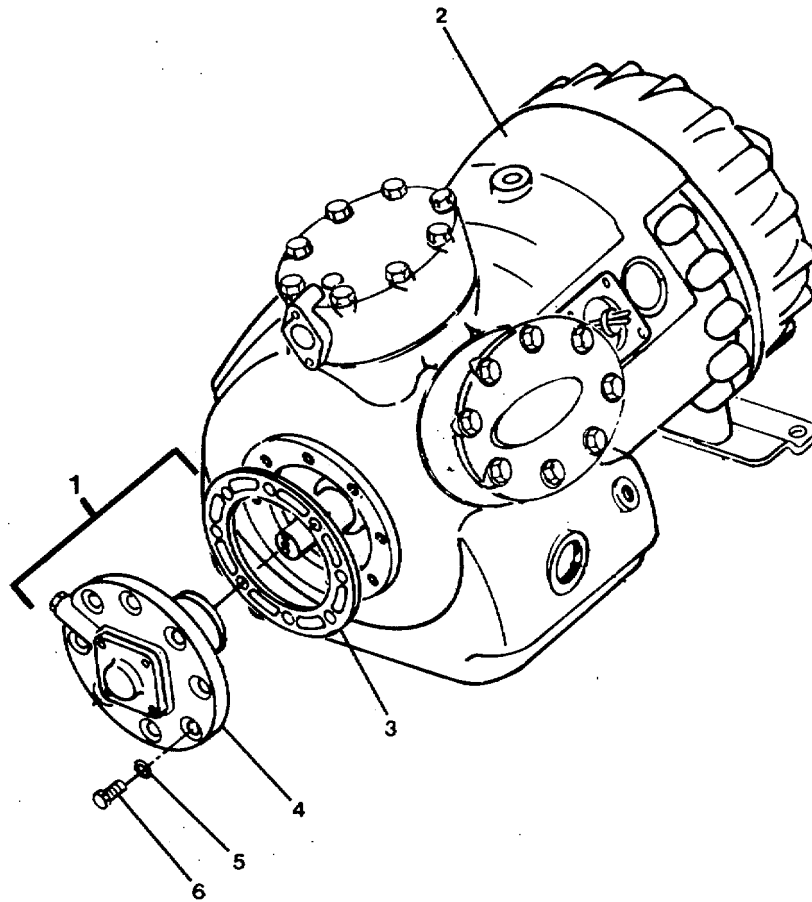
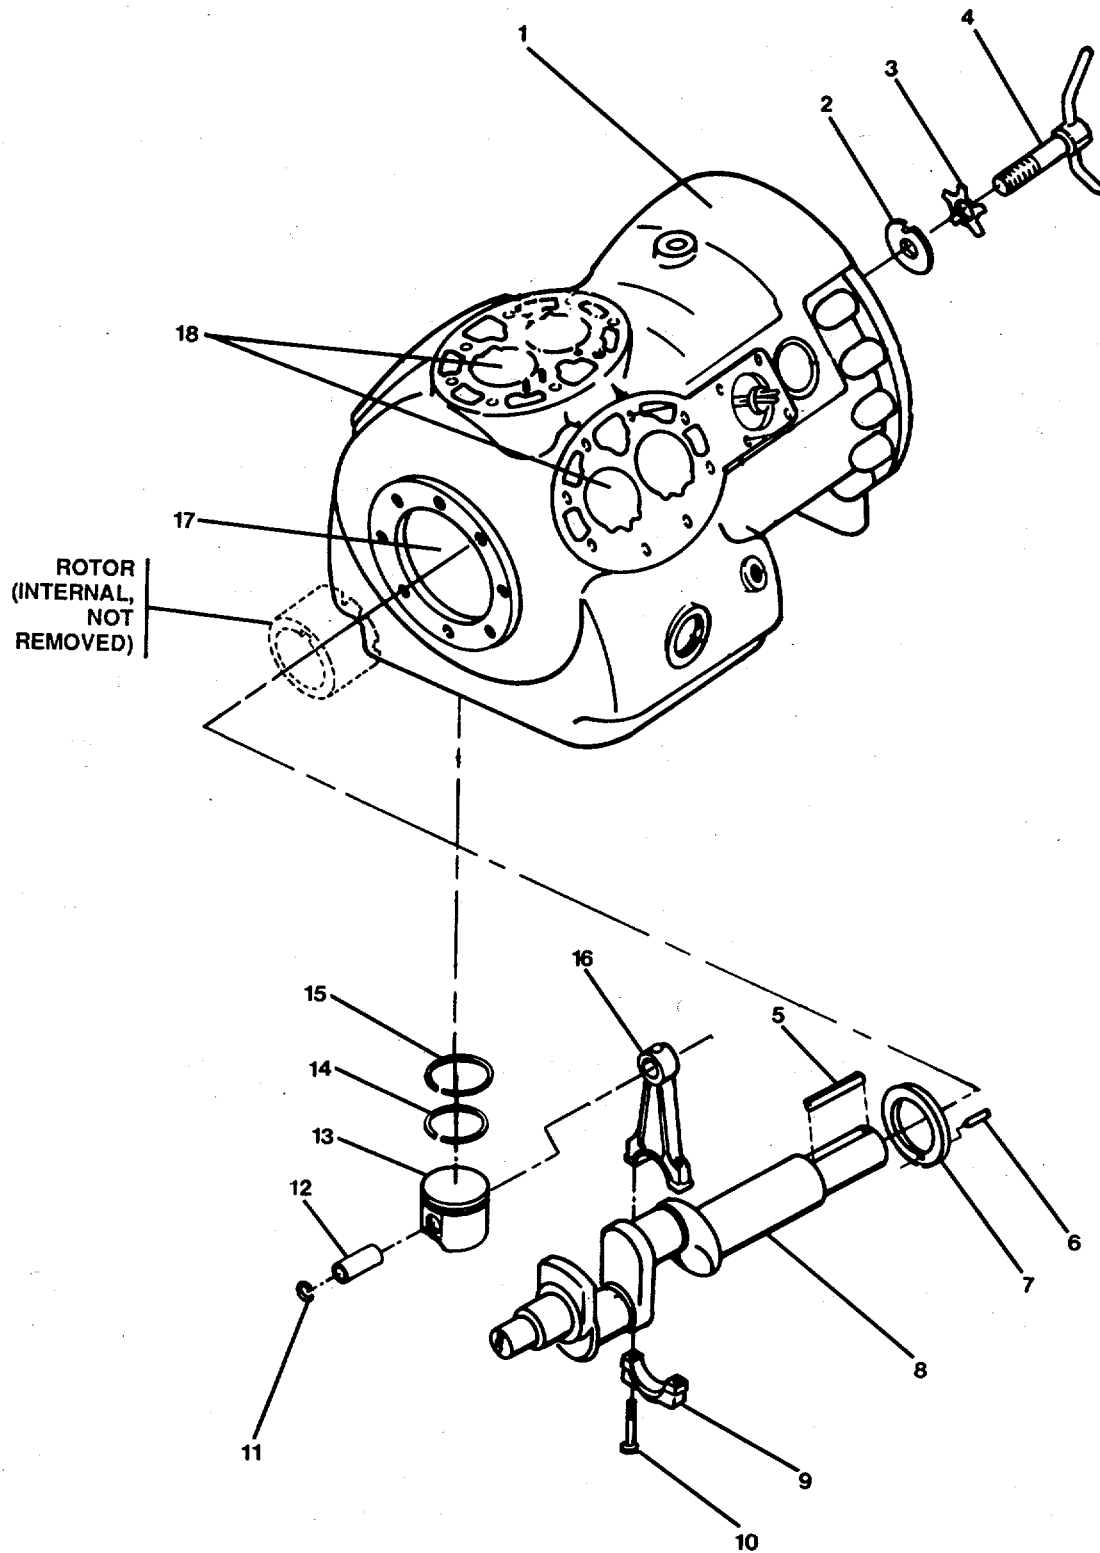

FIGURE 4-21. *Replacing Pump and Bearing Assembly.*
FIGURE 4-22. Replacing Crankshaft, Pistons, and Connecting Rods.
- (11) Install assembly relief valve (package) (13). Safety relief valve (14) installed with package.
- (12) Connect oil suction tube (12) to oil pump inside crankcase. Connect oil strainer (11) to suction tube (12).
- (13) Coat gasket (7) with clean compressor oil.
- (14) Align gasket (7) and install compressor plate (8) to compressor (1) with 22 capscrews (10) and washers (9).
- (15) Torque capscrews alternately from side to side to following values:
- (16) Replace compressor (REPLACEMENT steps in this procedure).
- h. Replace pump and bearing head assembly (1, FIGURE 4-21):
- (1) Remove pump and bearing head assembly as follows: Remove eight capscrews (6) and washers (5) and remove oil pump bearing head (4) and gasket (3) from compressor (2).
- (2) Install pump and bearing head assembly as follows:
- (c) Position gasket (3) on compressor (2) and install pump and bearing head (4) with eight capscrews (6) and washers (5). Torque capscrews alternately to following values:
- i. Replace crankshaft (8, FIGURE 4-22), rotor drive key (5), connecting rod and cap assembly (10, 9, 16), and compressor piston (13) and rings (14, 5).
- (1) Remove compressor (See REMOVAL steps, above).
- (2) Remove cylinder head and compressor heads (REPAIR, step d. , above).
- (3) Remove motor end cover, gasket, and suction strainer (REPAIR, step f. above).